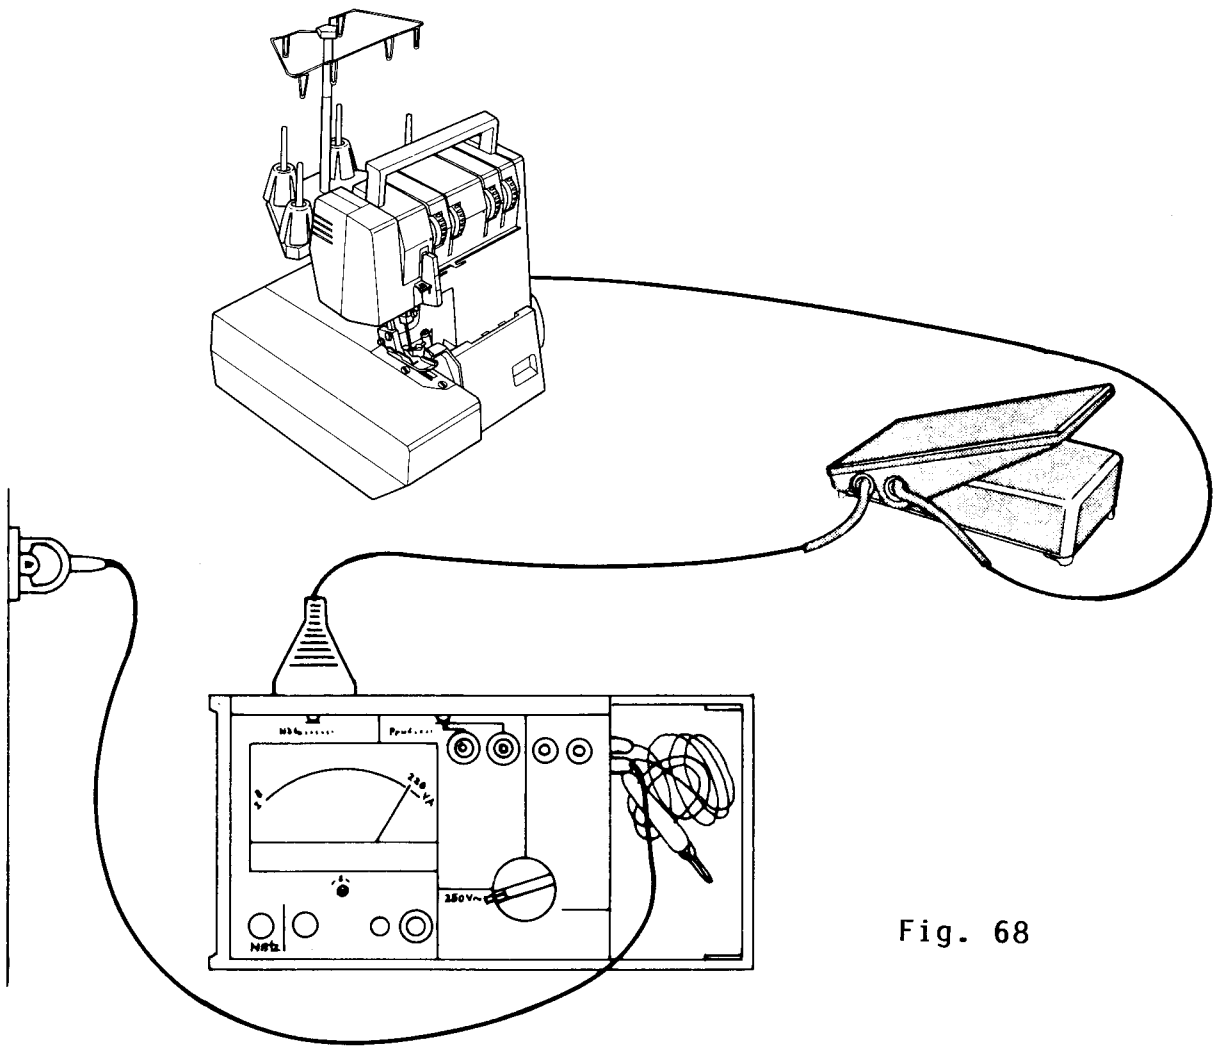

Fig. 68
- * The left lamp for the mains voltage must light up continuously (**Fig. 68**).